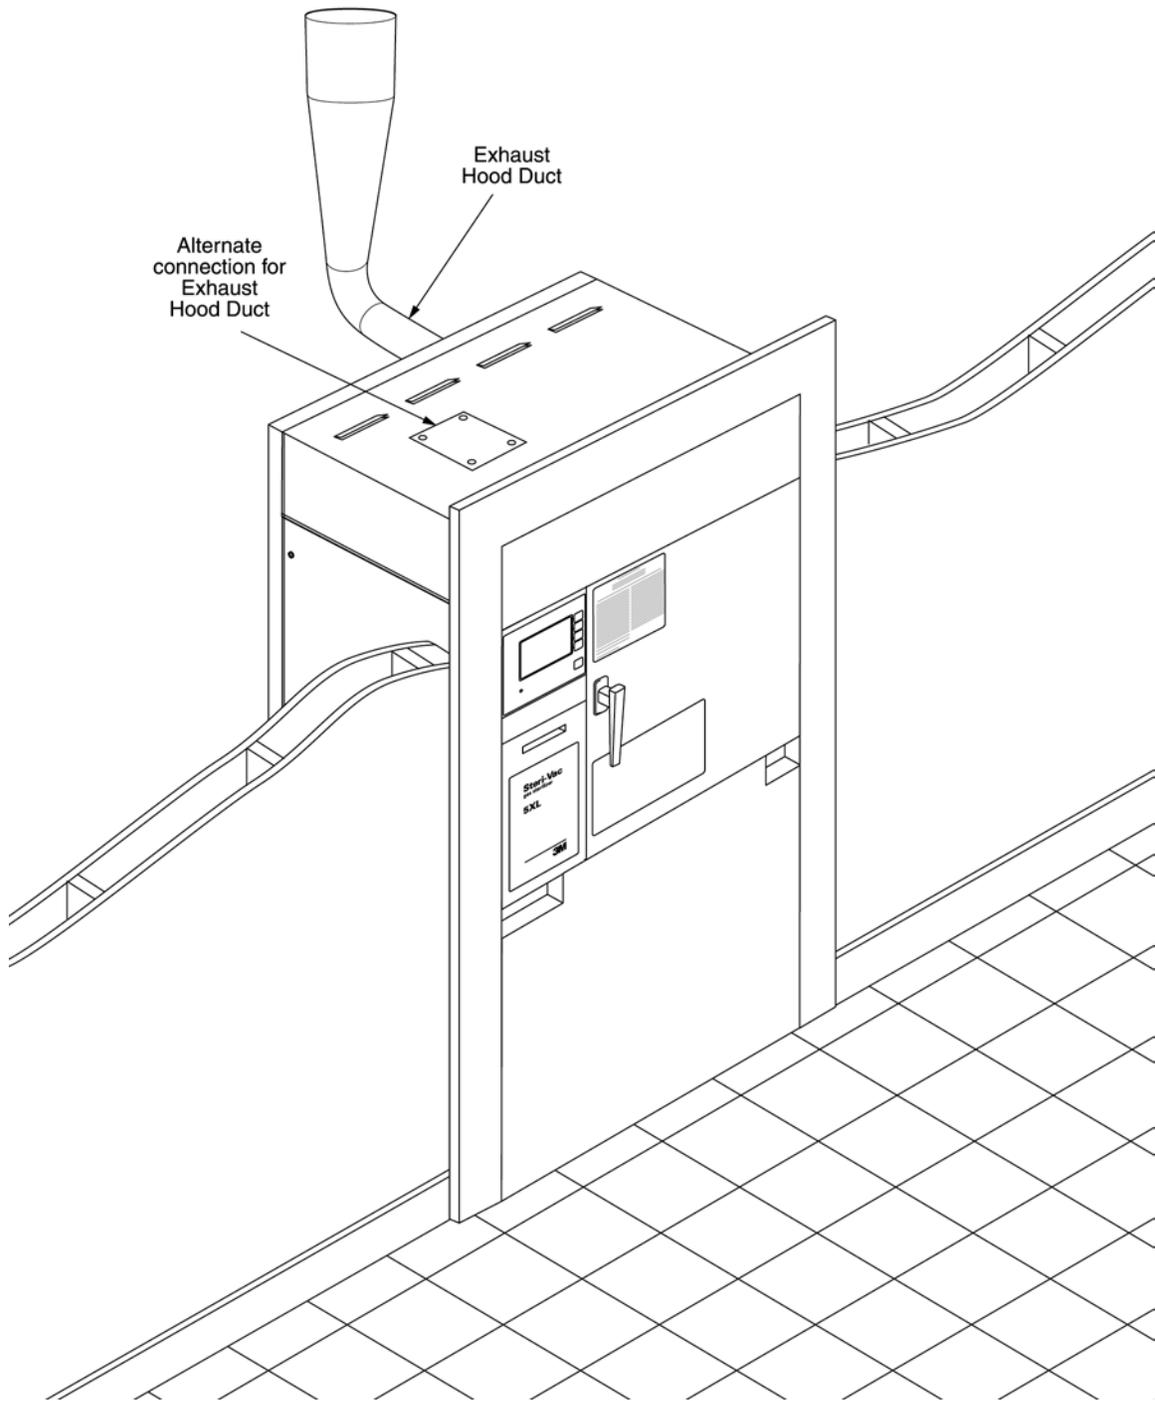

Figure 12. Typical In-wall Installation.
- Determine if a new exhaust system is needed or if an existing system can be used. If an existing system will be used, make sure the existing system meets the sterilizer equipment specifications. The diagrams in Figures 12, 13, and 14 show several installation possibilities. Consider them in planning your installation.